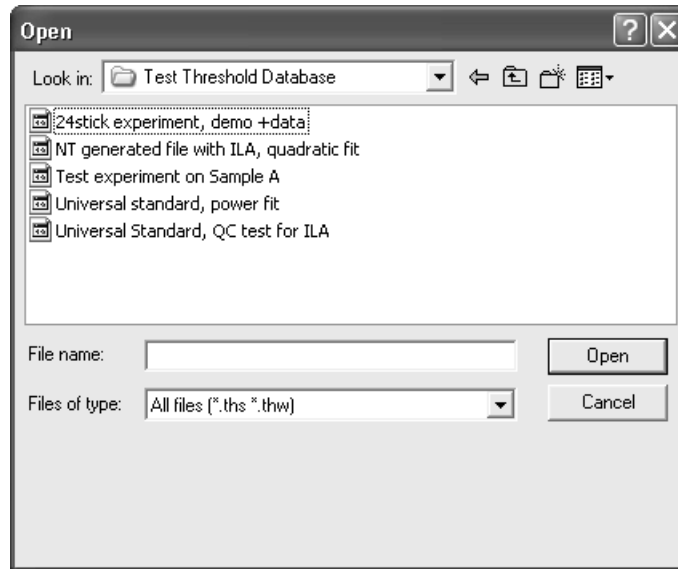

Figure 4-7: The Open Dialog
- 2) The Open dialog opens (Figure 4-7).